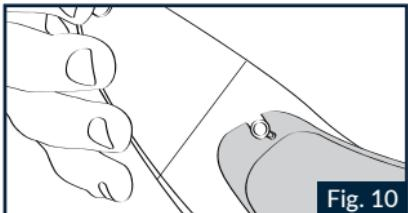

Fig. 10
1.4 Insert one side of the PINLOCK® inner visor onto one of the two visor pins and hold it in position (Fig.10).